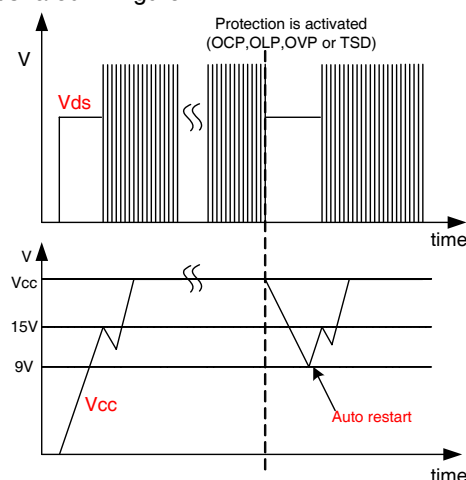

Figure 24. Auto restart operation after protection
3. Protection function: FS8S0765RCB has four self-protective functions such as abnormal over current protection (AOCP), overload protection (OLP), over-voltage protection (OVP) and thermal shutdown (TSD). Because these protection circuits are fully integrated into the IC without external components, the reliability can be improved without cost increase. In the event of these fault conditions, the FPS enters into auto-restart operation. Once the fault condition occurs, switching operation is terminated and MOSFET remains off, which forces V_{CC} to be reduced. When V_{CC} reaches 9V, the protection is reset and the supply current reduces to 80 μ A. Then, V_{CC} begin to increase with the current provided through the start-up resistor. When V_{CC} reaches 15V, the FPS resumes normal operation if the fault condition is removed. In this manner, the auto-restart alternately enables and disables the switching of the power MOSFET until the fault condition is eliminated, as illustrated in Figure 24.